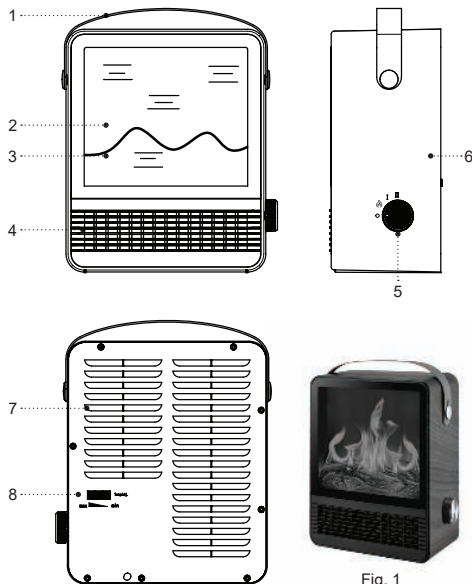

Fig. 1
- Set the mode selection knob (5) to the desired setting:
- «☼» — Burning flame effect only (Fig. 1);
- When operating in heat mode («I» or «II»), turn the thermostat control knob (8) toward the «max» position. Once the room reaches the desired temperature, turn the thermostat knob (8) toward the «min» position.
- the fan heater will not switch on if the thermostat setting is close to the ambient room temperature. In this case, rotate the thermostat knob (8) toward the «max» position;
- if the thermostat knob (8) is set to the «max» position, the fan heater will continue to operate until you either turn the mode selector knob (5) to the «○» (off) position or rotate the thermostat knob (8) toward the «min» position.
- Upon completion set the operation mode selector knob (5) to the «○» position and disconnect the power plug from the electrical outlet.